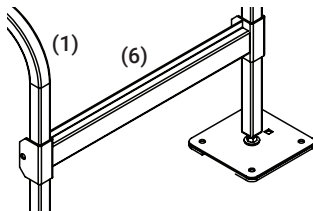

Fig. 4
4. If using QSMS1801 or QSMS2401, attach Stability Brace (6) to the midpoint of the leg as shown in Figure 4 based on typical hardware arrangement. For QSMS1201, skip this step.